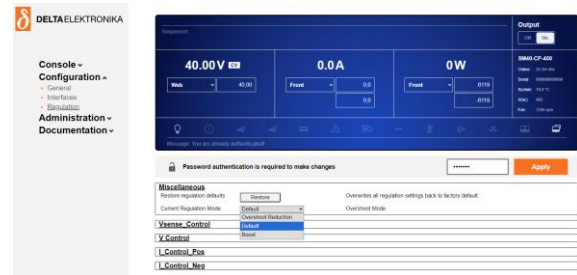

Figure 7.12: Current regulation mode
- Boost: for constant voltage operation and a load requiring a short current boost. See Figure 7.12.